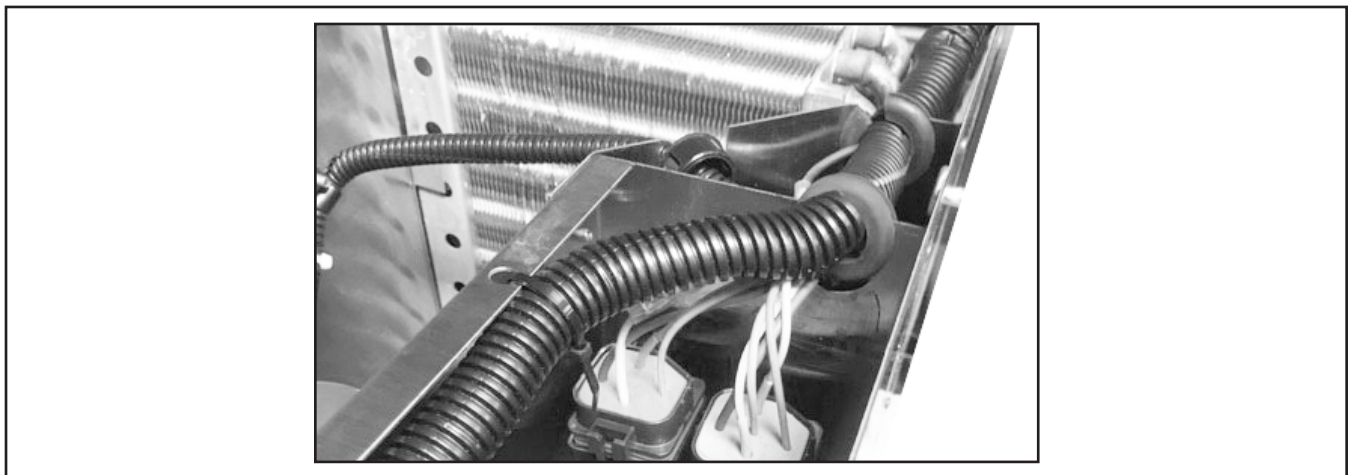

Figure 5 - Install First Part of the Harness
- 1.7. Install first part of the new harness (TTE 020950238) like the old one. Connect the four connectors, secure the harness with the P-Clamp and the grommets (Figure 5).